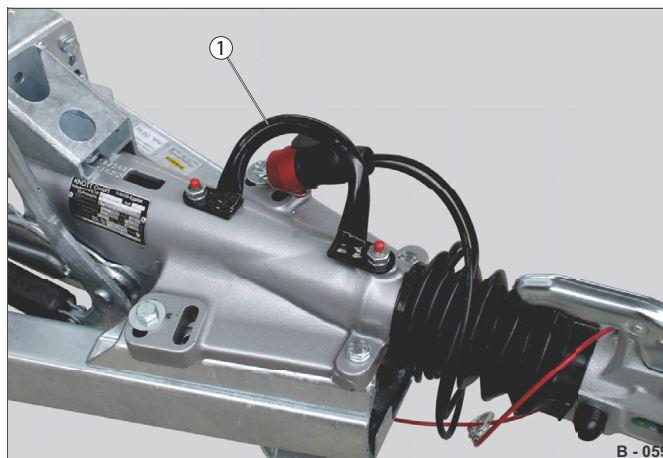

Fig. 72 Manual manoeuvring of the trailer
- Use the handle (Fig. 72 /1) on the overrun device for manual manoeuvring.